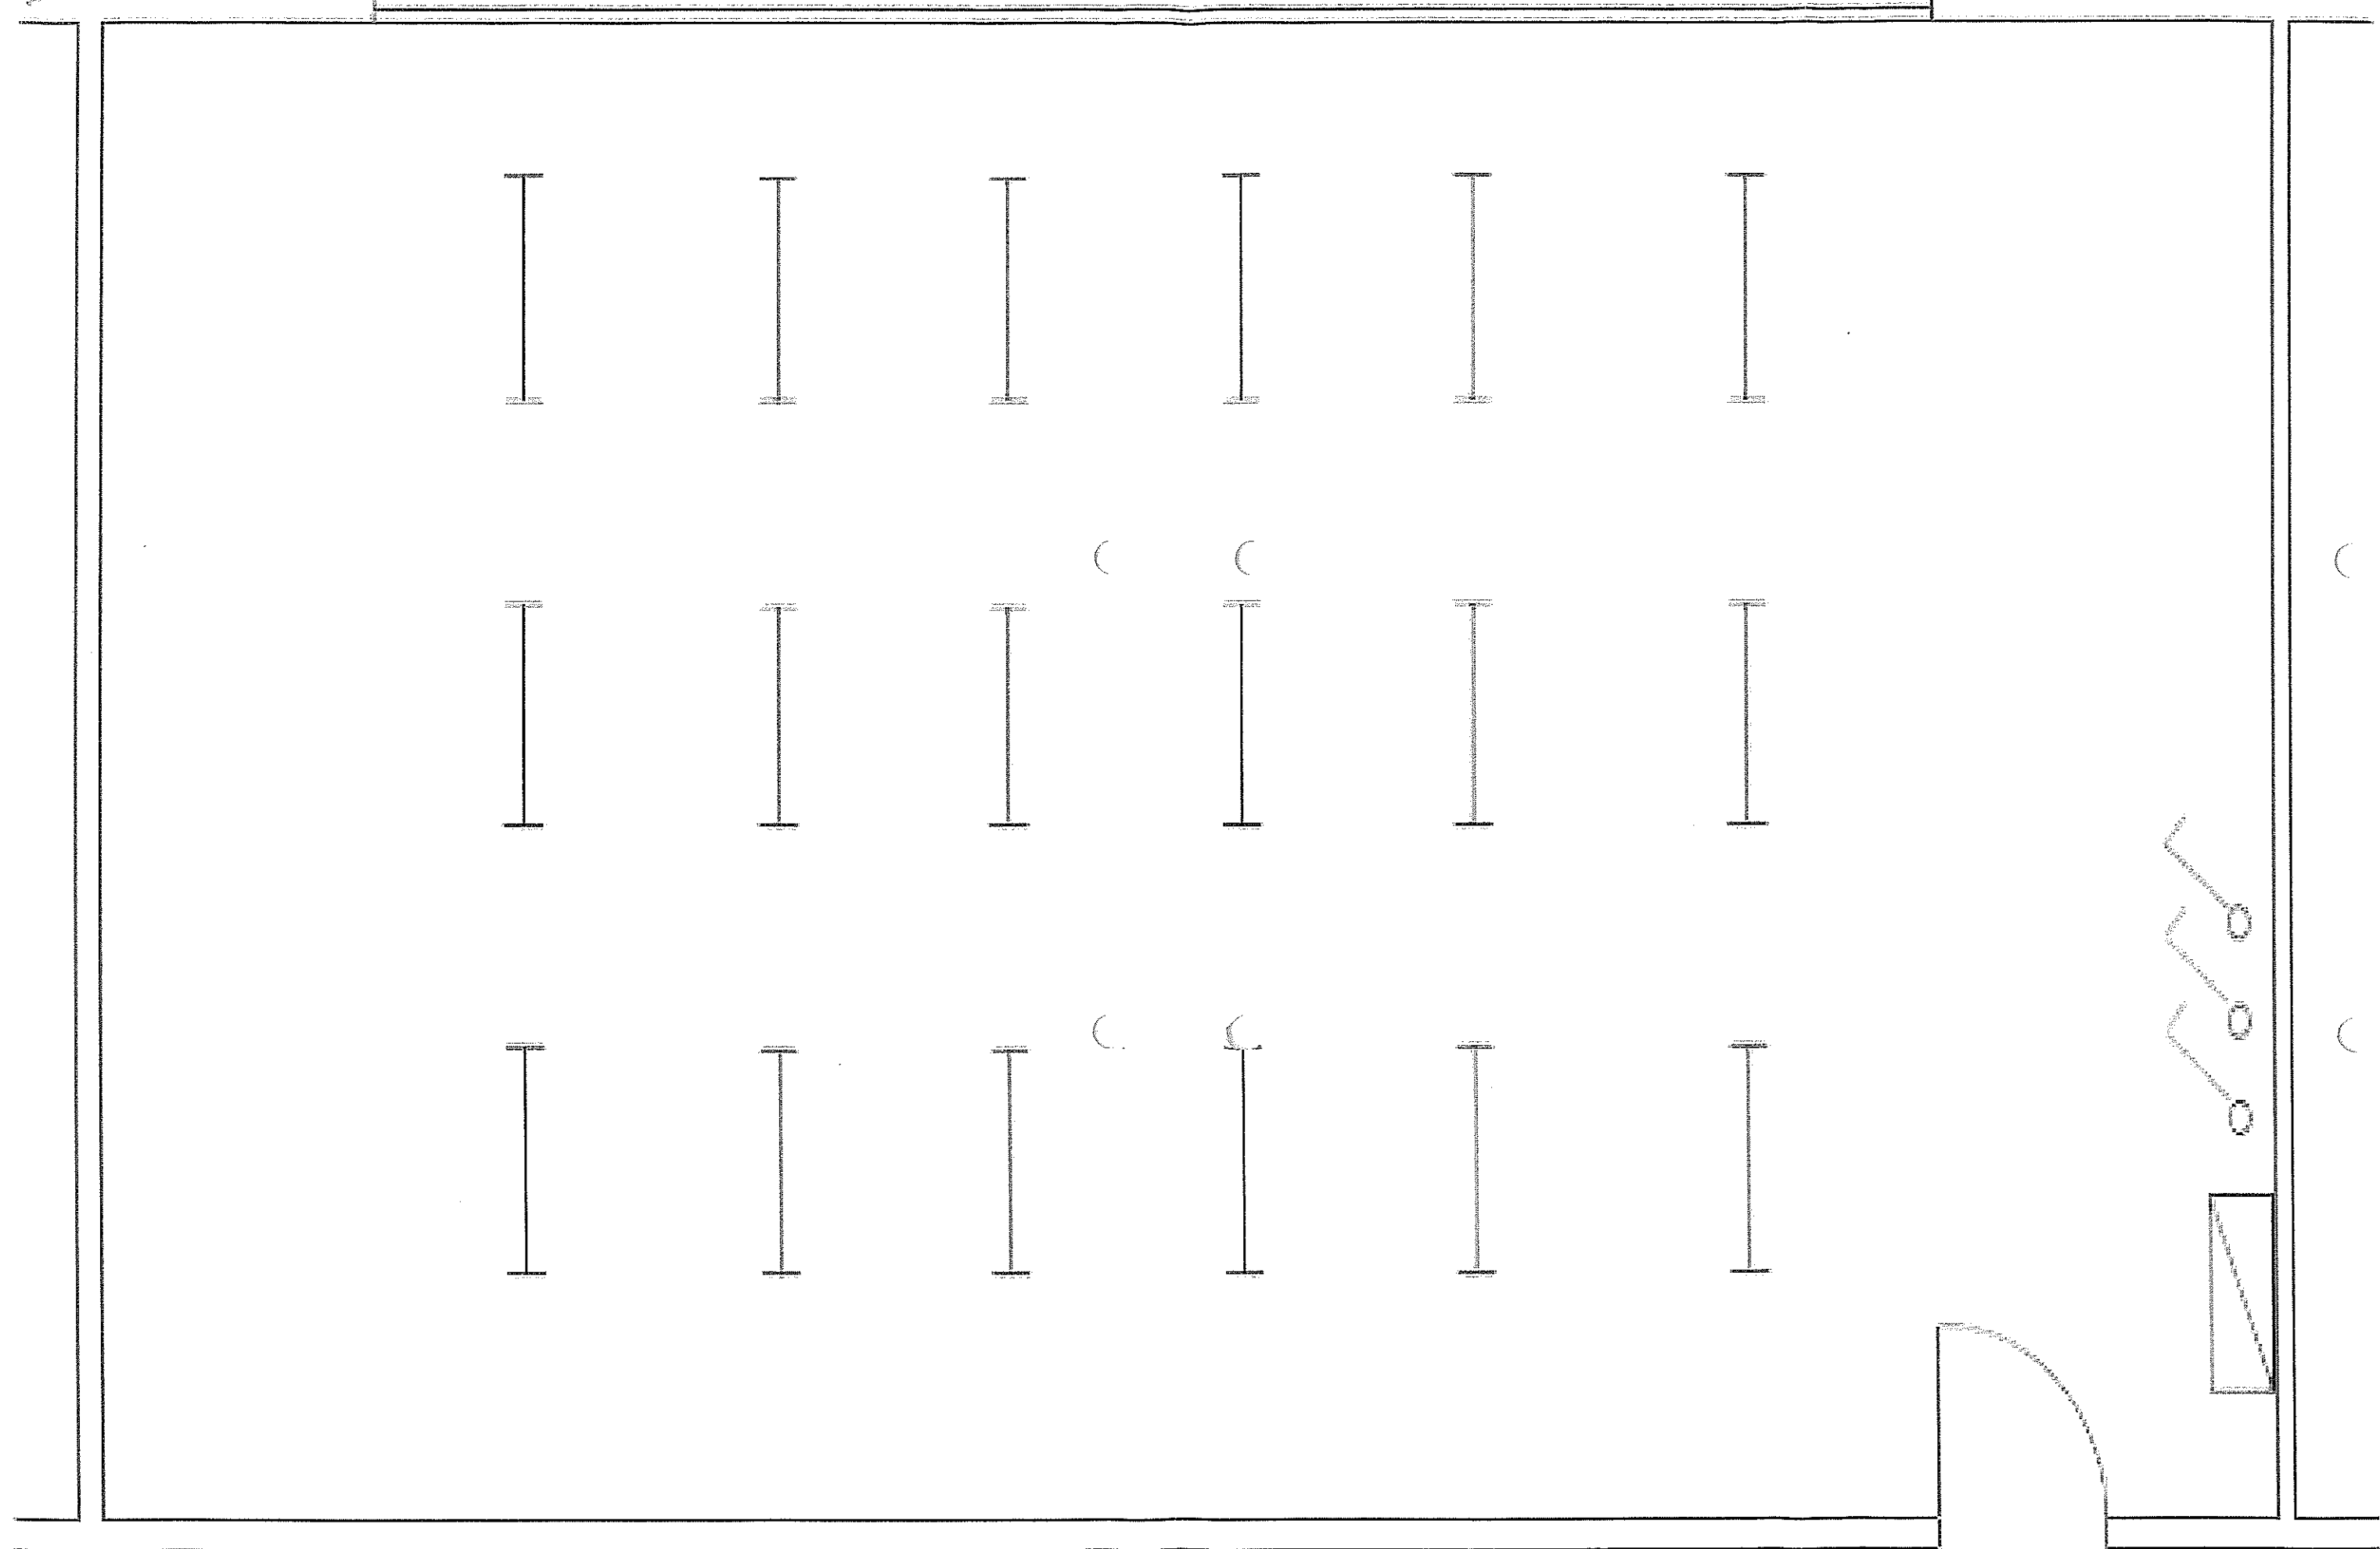

Figure 1.
- (c) Refer to the Figure 1 attached:
Indicate on the attached Figure 1, the proposed conduit and trunking routes for the lighting luminaries from the distribution board. (6 marks)